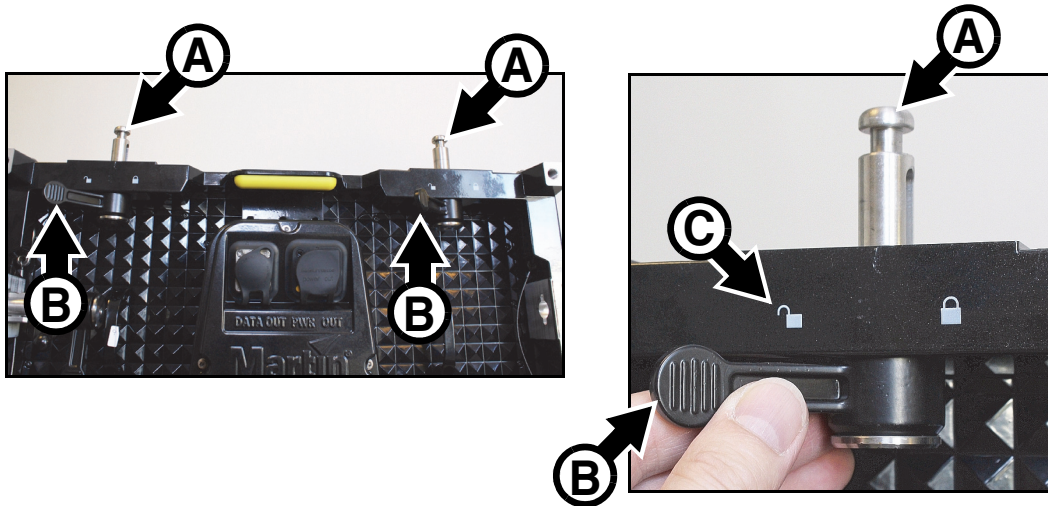

Figure 10: Vertical connection posts
2. See Figure 10. On the first panel, push both vertical connection posts **A** up through the top rail of the panel. Turn both locking levers **B** to the **Unlocked** position **C**.